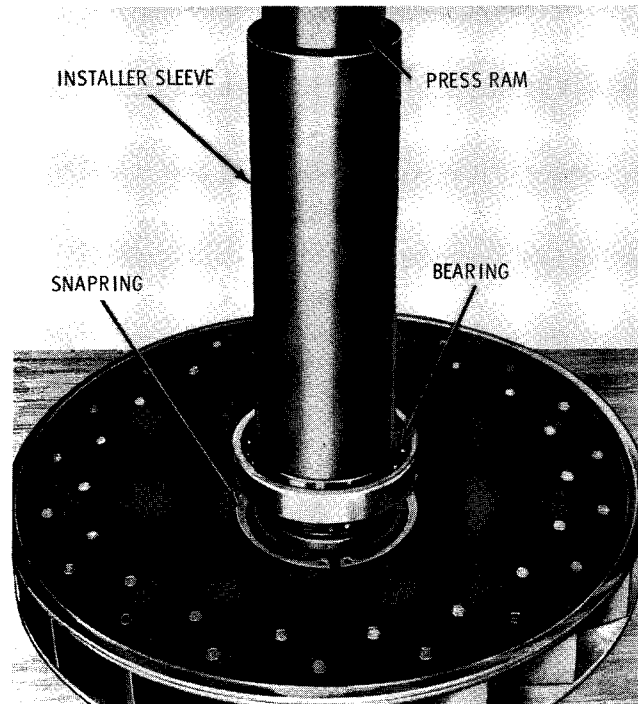

Fig. 7-17. Installing snapping and bearing on converter pump shaft (VH series)
(1) On the VH series, install snapping 14 (A, foldout 13), bevel side toward converter pump 15, into the counterbore on the pump shaft. The snapping will be installed into a groove in the converter housing in a later operation. Using a sleeve and press, install bearing 13 onto the pump shaft (fig. 7-17).
(2) On the VS2 series, install bearing 13 (A, foldout 13), only.